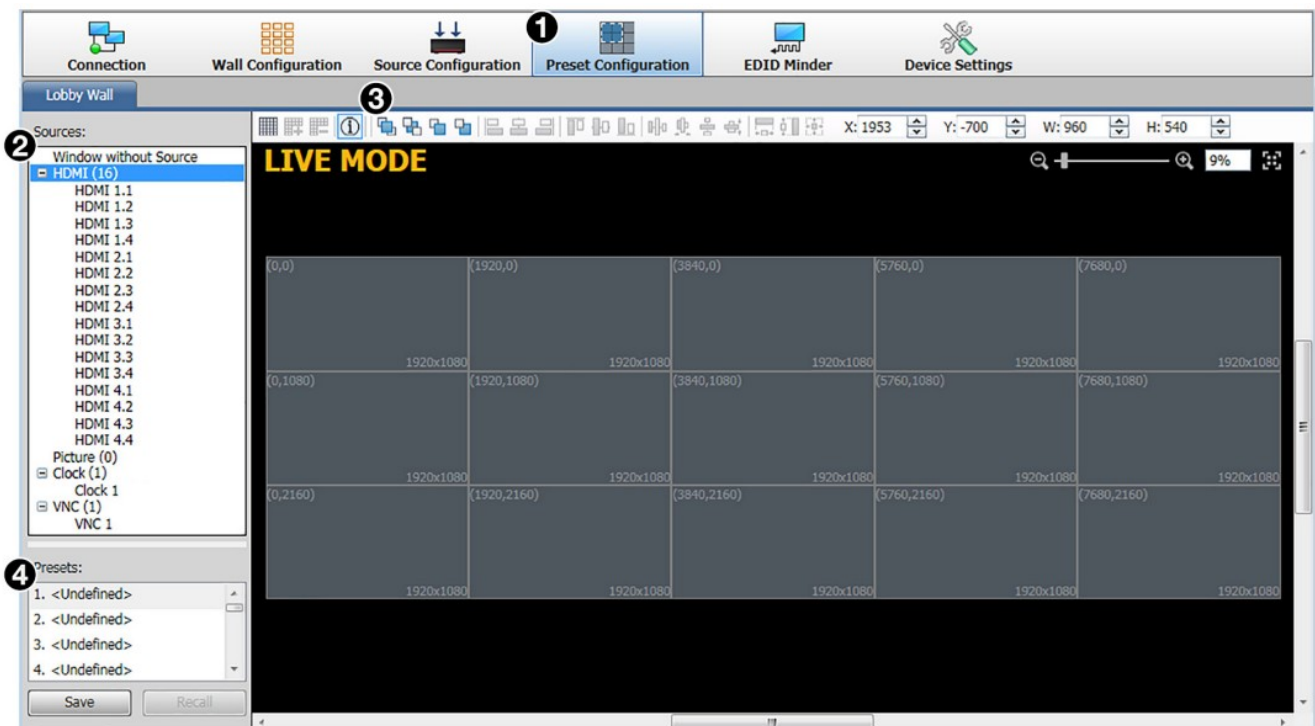

Figure 5. Preset Configuration Window
1. On the taskbar, click the Preset Configuration task button to display the preset configuration workspace (see figure 5, 1). The Canvas in this workspace is a virtual representation of the videowall you set up on the Wall Configuration screen (see Configuring the Videowall on page 3).
- If a window completely or partially covers another window, set the priority for each window by selecting the window, then clicking a priority icon on the toolbar above the Canvas (see figure 5, 3, on the previous page). The priority number of the window (P1, P2, and so on) is displayed in the lower-left corner of the window on the Canvas (see the illustration in step 2a on the previous page). You can also use this toolbar to align multiple windows with each other and to set the size of multiple windows on the Canvas.
- In the Presets list in the lower-left corner of the screen (see figure 5,4 saved), select a slot to which the preset will be save. (If the slot does not have a preset assigned to it, it is labeled with <Undefined>.)